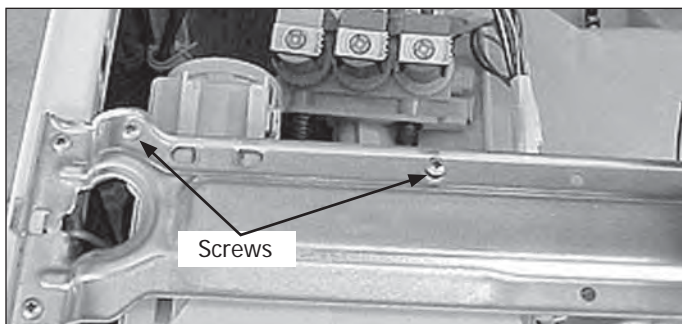

Figure 4-64.
5. Remove the (2) screws holding the housing to the center brace. (See Figure 4-64)